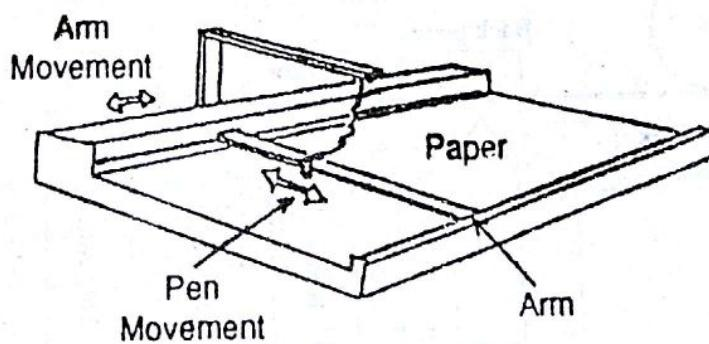

Fig. 2.22 Flat-bed plotter
**1. Flat-bed plotter :** A flat-bed plotter is shown in Fig. 2.22. The paper is mounted on a stationary table (the bed) and the pen is mounted on a carriage that moves on a track. The track moves over the surface of the paper. The pen moves back and forth along the track, thus allowing the pen to be positioned in the desired place over the paper.